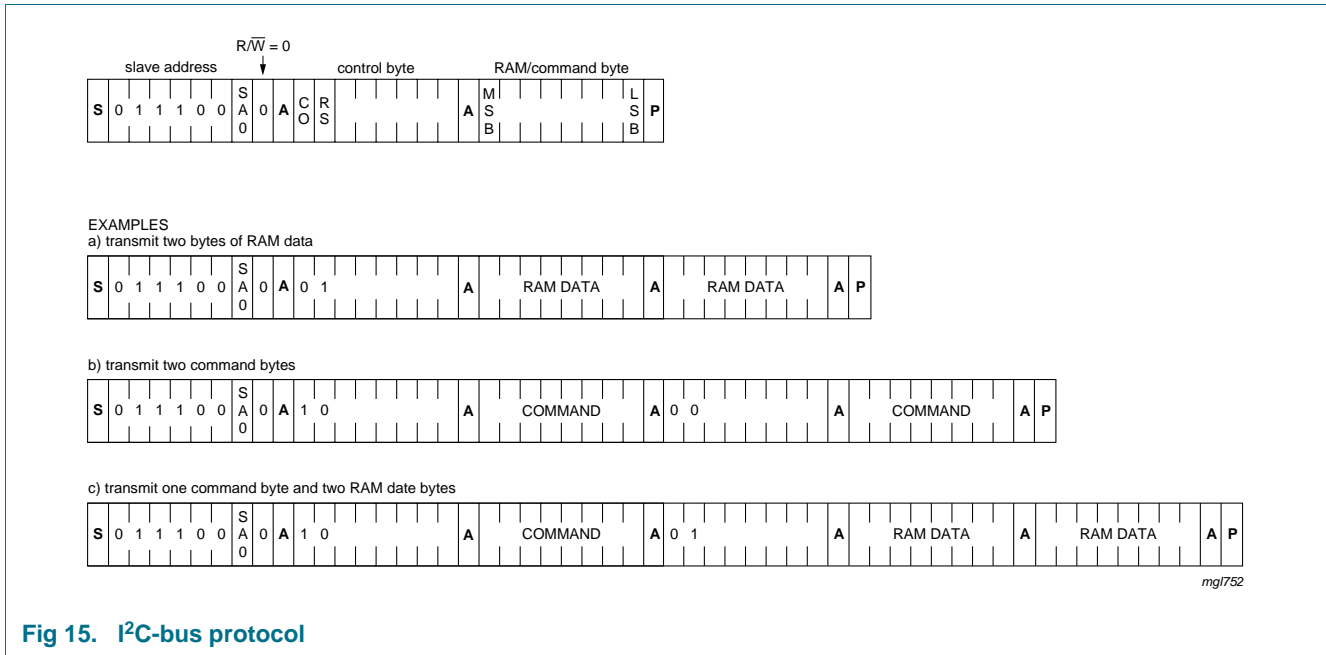

Fig 15. I²C-bus protocol
The I²C-bus protocol is shown in Figure 15. The sequence is initiated with a START condition (S) from the I²C-bus master which is followed by one of the available PCF8533 slave addresses. All PCF8533s with the same SA0 level acknowledge in parallel to the slave address. All PCF8533s with the alternative SA0 level ignore the whole I²C-bus transfer.